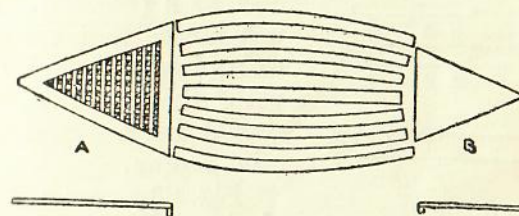

Fig. 20.
The floor-boards (Fig. 20) are simply pieces of pine, $\frac{1}{4}$ in. thick, cut to shape and screwed down to the timbers. These should not run right fore and aft, but should be stopped about 4 ft. from the stern and 2 ft. from the stem. In this way you will be able to fit a stern sheet aft (A, Fig.
20) and a platform forward (B, Fig. 20). These two platforms should be strongly made out of $\frac{3}{4}$ in. wood, as they are raised above the bottom of the boat at the centre line, and therefore have to bear all your weight when standing.